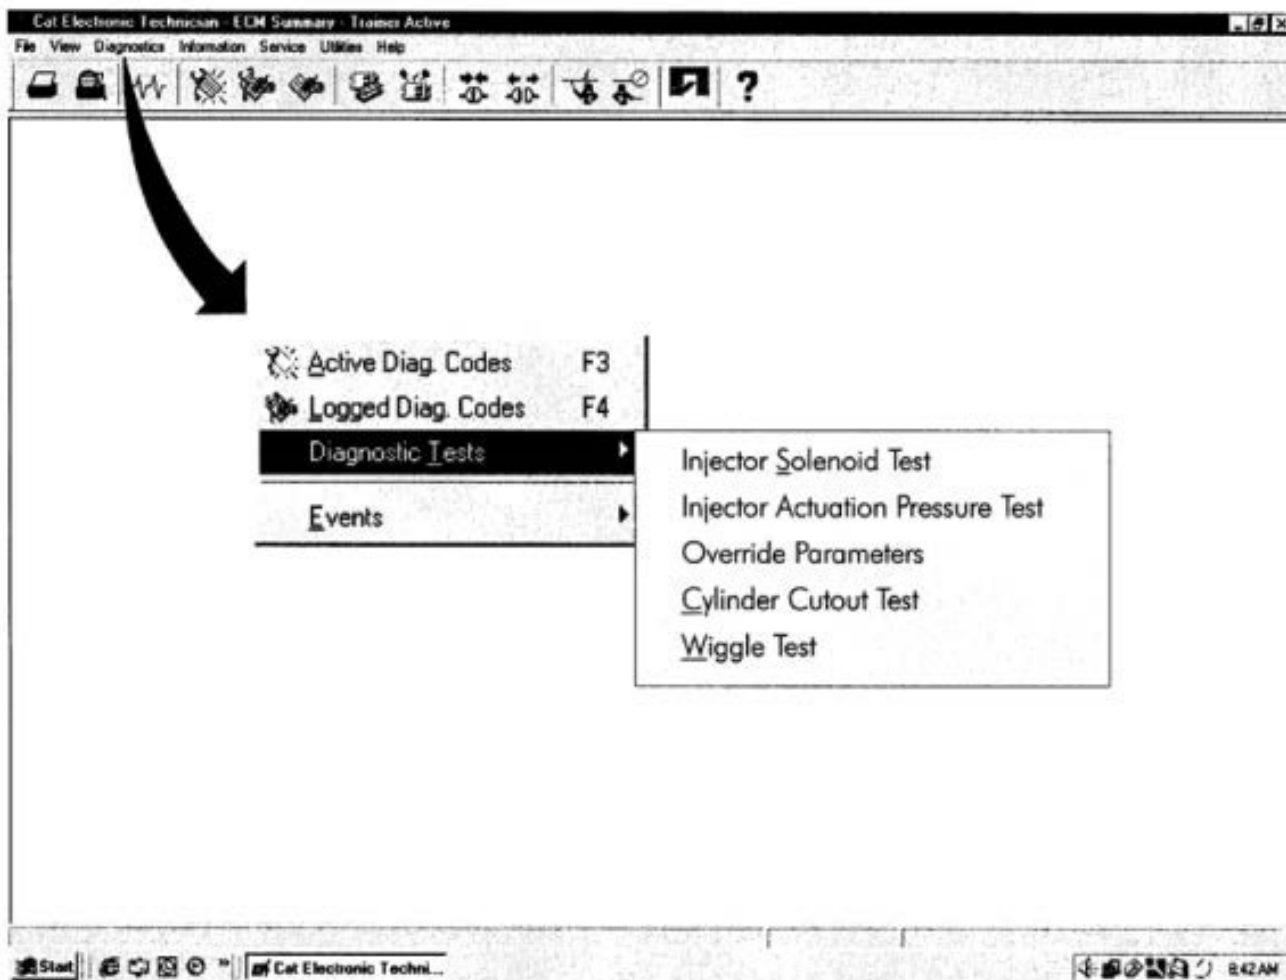

Figure 3. Caterpillar Electronic Technician (Cat ET) Diagnostic Tests (Sheet 1 of 2).
- (1) A pop up window appears with the message Are you sure you want to clear the code?
- (2) Click on the YES button to clear the code from the list.
- STEP 8. To run the Diagnostic Tests, click on the pull down menu for **Diagnostics**, then select **Diagnostic Tests** (Figure 3).
- (1) Injector Solenoid Test
- (2) Injection Actuation Pressure Test
- (3) Override Parameters
- (4) Cylinder Cutout Test
- (5) Wiggle Test